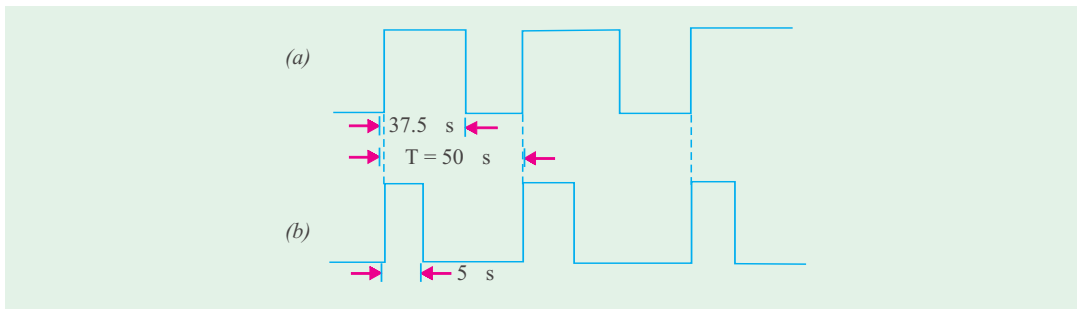

Fig. 65.31
Since the duty cycle of the square wave is 75%, therefore the time interval during which the input waveform is at a higher voltage level is,  $0.75 \times 50 \mu\text{s} = 37.5 \mu\text{s}$ . Fig. 65.31 (a) shows a sketch of the input waveform which is used to trigger the monostable multivibrator.
Now the monostable multivibrator is triggered once each time a new pulse arrives. The monostable multivibrator remains triggered only for a duration,  $t_p = 5 \mu\text{s}$ . A sketch of the waveform at the output (B) of the monostable multivibrator is as shown in Fig. 65.31(b).